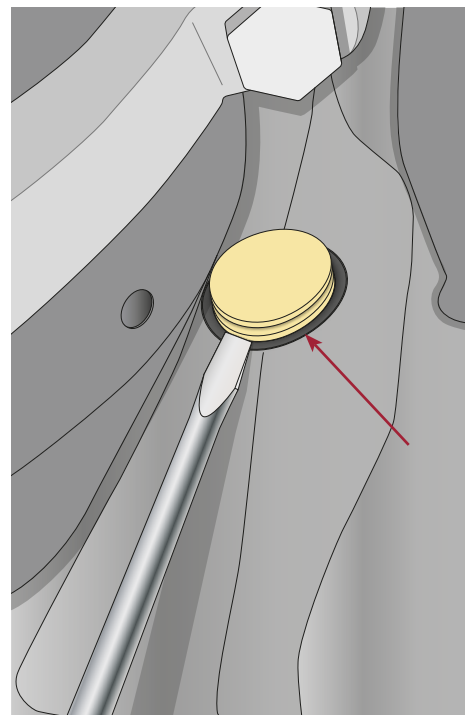

Figure 138: Remove Adjuster Plug Without Damaging Boot
2. Carefully remove the adjuster plug from the back of the calliper. Ensure that you do not to damage the surrounding adjuster boot. Refer Figure 138.